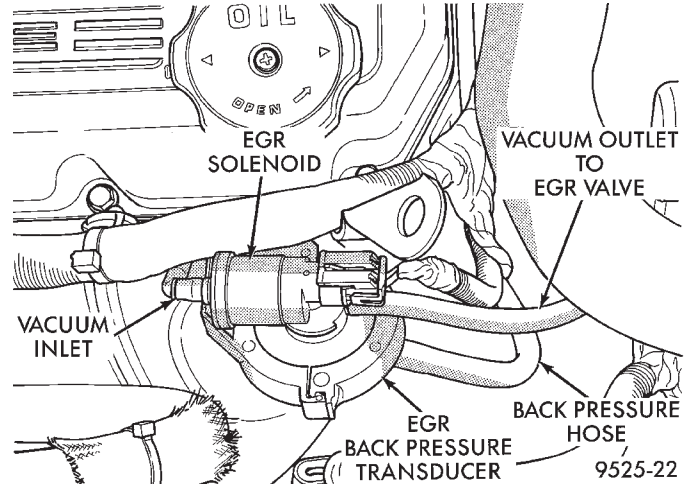
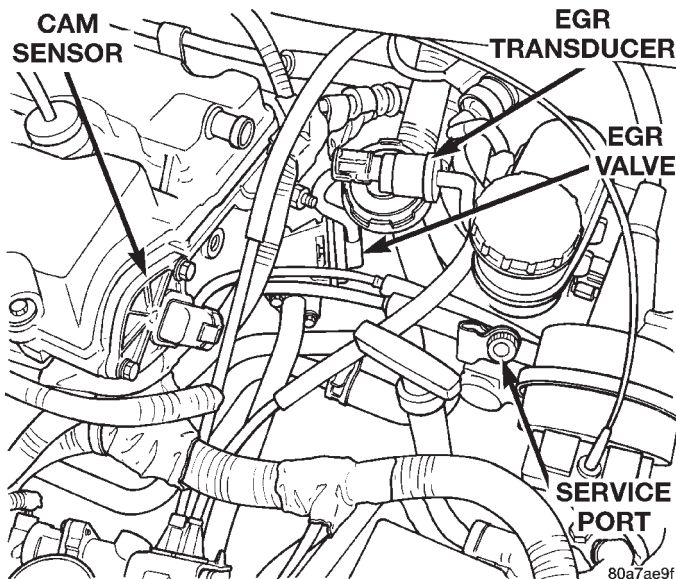

Fig. 49 Electronic EGR Transducer—2.5L Engine
Fig. 48 Electronic EGR Transducer—2.4L Engine
(16) Check electrical connector at Electronic EGR Transducer. Inspect vacuum and back pressure hoses at the solenoid and transducer for leaks (Fig. 48) or (Fig. 49).